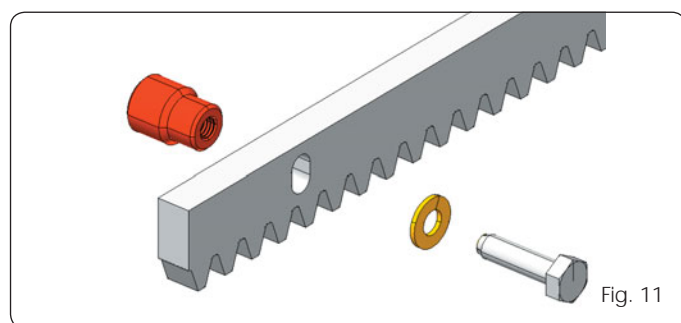

Fig. 11
5.4.1 STEEL RACK TO WELD (Fig. 11)